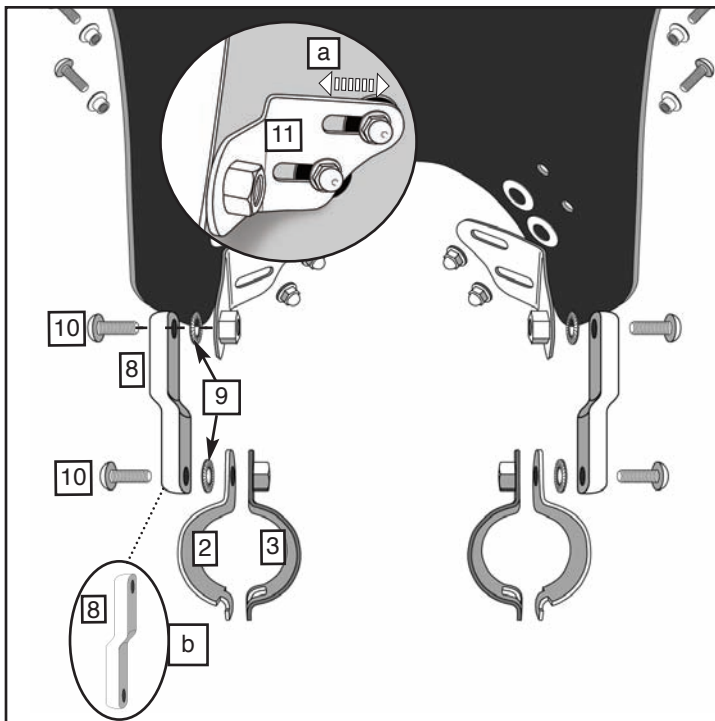

Figure 5
- ☞ Holding Windshield up to motorcycle will help determine position of Offset Bracket (8).
- a. Adjustment of Inside Bracket (11)
- b. Adjustment of Offset Bracket (8)
- ☞ Offset Bracket (8) can be reversed to provide additional adjustment in width (b).
- 10. Install the Left Offset Bracket (8) to the Inner Bracket (11) with 1, Serrated Washer (9) and Screw (10). **Figure 5**
- 12. Hold Inner Clamp (3) to inside of fork tube, hook Outer Clamp (2) to the Inner Clamp. **Figure 5 and 6**
- 13. Secure Clamp Assemblies to the Offset Bracket (8) with remaining M8 Screws (10) and Washers (9). **(6mm Hex Wrench) Figure 5 and 6.**